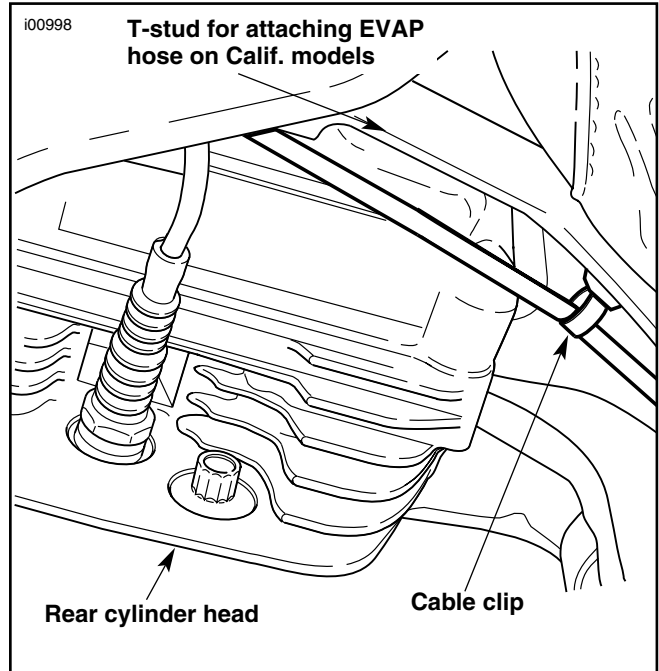
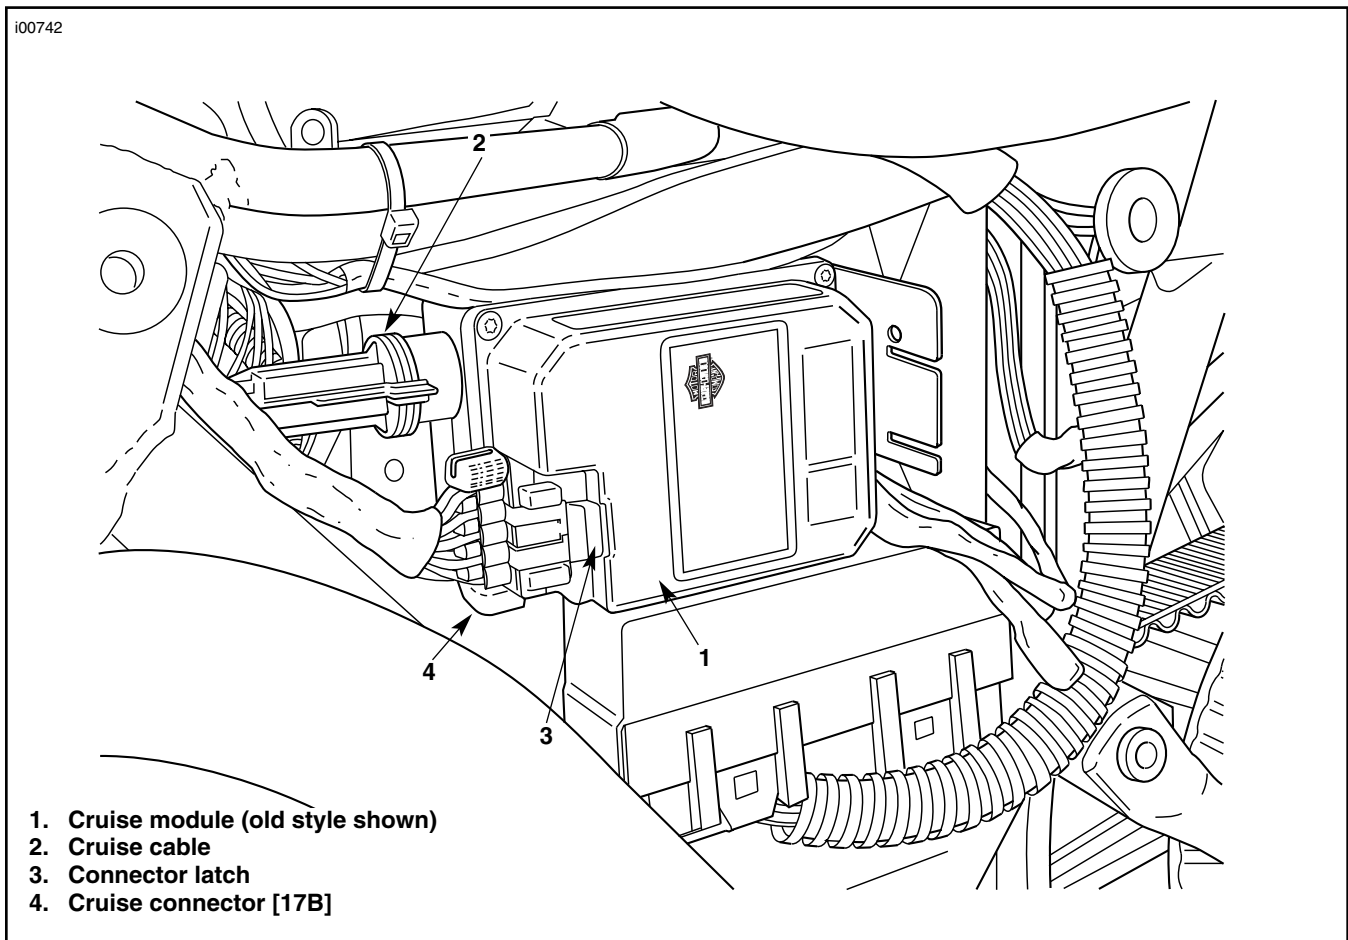

Figure 2. Attaching Cruise Cable Adjuster (Left Side View)
Figure 3. Mounting Cruise Module
5. See Figure 3. While feeding cruise cable and adjuster through hole in frame cross member, place cruise module (1) in position shown.
6. See Service Parts illustration. Install three flange nuts (17) to secure cruise control module to box. Tighten nuts to 9-11 ft-lbs.
9. See Figure 2. Install wire harness retainer on cruise cable and insert barb on clip into hole in frame. On Calif. models, remove EVAP hose from cable clip and secure hose with T-stud cable strap from kit in location shown.